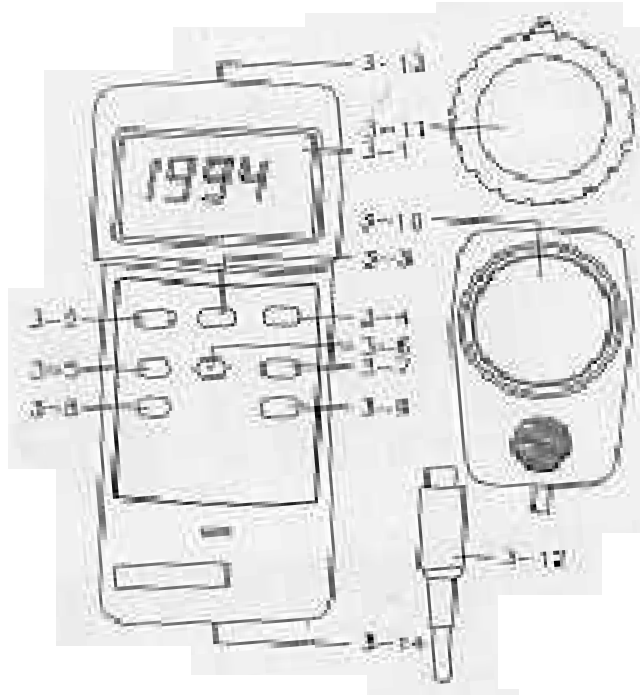

Fig. 1
- (1) Push the "Power Off/On Button"(3-2, Fig. 1) to switch the instrument on.
- (2) Zero Adjust Procedures
- * Cover the Light Sensor(3-10, Fig. 1) using the Sensor Cover provided (3-11, Fig. 1).
- * Slide the "Range Switch"(3-9, Fig. 1) to the 2000 LUX position.
- * Push the "Zero Button"(3-8, Fig. 1), then display will show zero values.
- (2) Select the desired measuring unit by pressing the "LUX/FC Button"(3-4, Fig. 1). The display will indicate the selected unit of "LUX" or "Ft-cd".
- (3) Determine the lighting type (Tungsten/Sun, Sodium, Fluorescent or Mercury lamp) by pressing the "Light Source Select Button"(3-7, Fig. 1)
- (4) Select the max. range using the "Range Switch"(3-9, Fig. 1).
- (5) Position the Light Sensor(3-10, Fig. 1) directly under the light source.
- (6) * On the 20,000 LUX range, the last digit will be shown on the lower line of LCD display.
- (7) Data Hold :
- * During measurement, pushing the "Data Hold Button"(3-3, Fig. 1) will hold the display values & the LCD will show the "D.H" symbol.
- (8) Data Record(Max., Min., Average reading)
- * The DATA RECORD function displays the maximum, minimum and average readings. To start the DATA RECORD function, press the "Record Button"(3-5, Fig. 1) once. "REC" marker will appear on the LCD display.
- (a) Push the "CALL Button"(3-6, Fig. 1) once, then the "Max" symbol with the maximum values recorded will appear on the LCD display.
- (d) To de-activate the Data Record function, Press the "Record Button" (3-5, Fig. 1) once again. All associated annunciators will disappear from the display.
(9) For quick measurement, follow the procedures shown below :
To de-activate this feature, Select the memory record function during measurement, by pressing the "RECORD" button(3-5, fig.1).
- (1) When the left corner of LCD display show "LBT", it is necessary to replace the battery. However, in-spec measurement may still be made for several hours after low battery indicator appears before the instrument become inaccurate.
- (2) Slide the Battery Cover(3-14, Fig. 1) away from the instrument and remove the battery.
- (3) Install a 9V battery(PP3 type) and replace the cover.